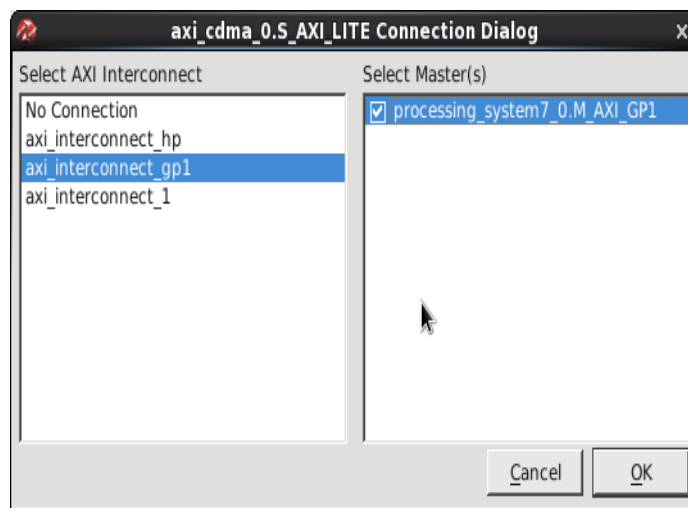

Figure 8: Connection Dialog window.
4. In the Connection dialog box, select the axi_interconnect_gp1 from the listed interconnects in the left hand portion of the window. You will note that in the right hand portion of the window, that the processing_system7_0.M_AXI_GP1 appears in the Select Master(s) list. Select the check box next to it and select OK. Refer to Figure 8.